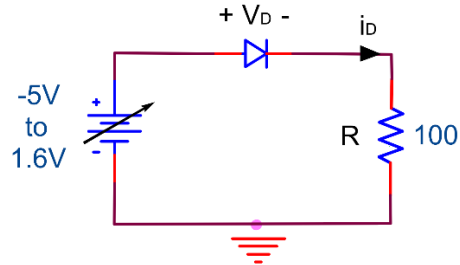

Figure 2.5
1. Construct the circuit in Figure 2.5 with 1N4002 diode. Apply a DC supply (initially set to zero) for v_i .
2. Varying the DC power supply voltage from -5 to $+1.6\text{V}$ on Figure 2.5, measure and record v_i , v_D , and v_o , using the multimeter. Calculate the diode current, i_D . Plot i_D versus v_D .